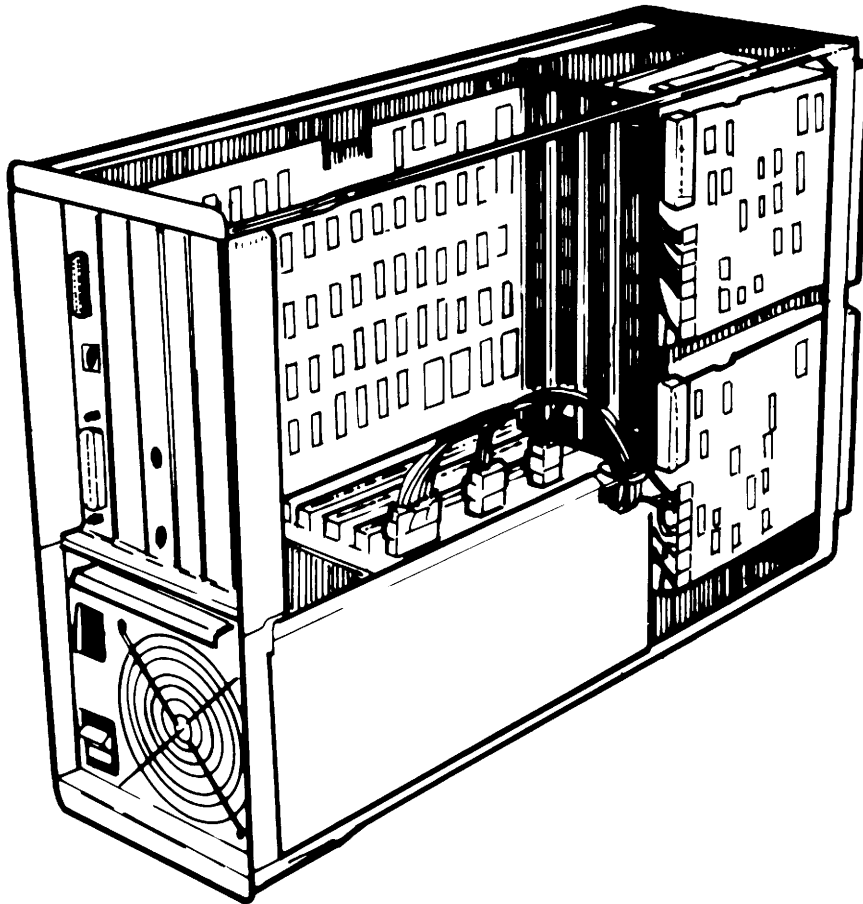

Figure 5-19. Electronic Unit in Vertical Position
- 4) Now set the System Unit in the Vertical position (see Figure 5-19) with the power supply down and carefully remove the System Floppy Drive ribbon cable from the top left connector J5 and remove Floppy Drive B ribbon cable (if any) from connector J6 located on the 210-8221 System board. Pull enough ribbon cable slack to move the connectors out of the way (over the side of the floppy drive).